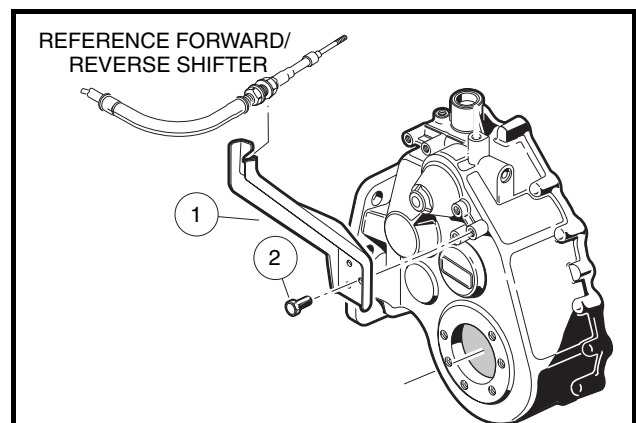

Figure 16-35 Gear Case and Cable Bracket
21. Remove screws (2) securing the transmission shift cable bracket (1) to transaxle (**Figure 16-35, Page 16-13**). See following **NOTE**.
- 22.1. Install the three screws (2) securing the Forward/Reverse shifter cable bracket (1) to the transaxle and tighten them to 135 in-lb (15.3 N·m) (**Figure 16-35, Page 16-13**).